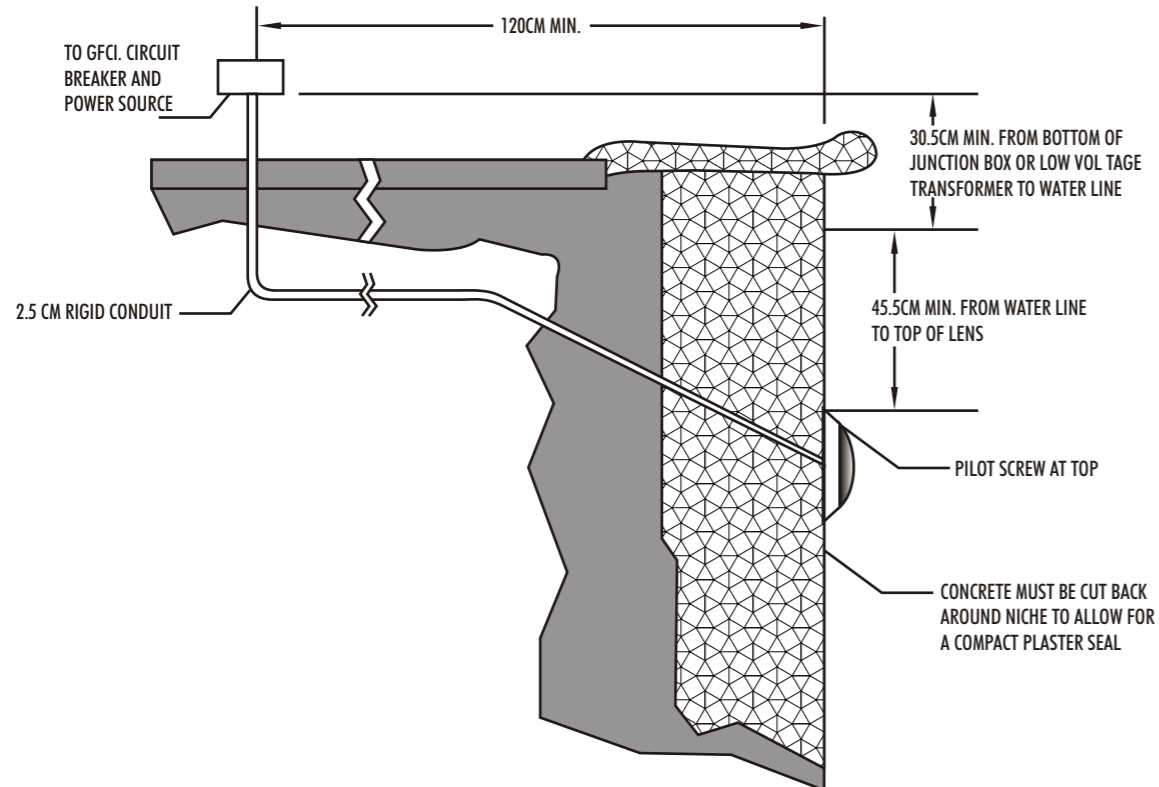

Figure 1.
### A. Preparatory steps which must be completed by the electrician before light is installed, see Figure 1.
- b. The junction box, or the low voltage transformer for 12 volt models, is located at least 30.5CM above water level and at least 120CM from the edge of the pool, see Figure 1.
- d. The mounting bracket must be properly installed so that the top edge of the Underwater Light's lens is at least 45.5CM below the surface of the water in the pool. Top of lens corresponds to center of center of Plastic Mounting Hub. see Figure 1.